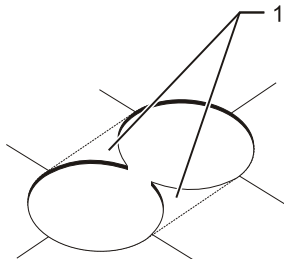

FIGURE 8
25. Use a suitable tool to remove the material (1) between the two holes to make one elongated hole 13x6.5 mm.
26. De-burr all holes and use an anti-corrosion stand-alone primer (no topcoat required) suitable for Aluminium substrates, for e.g. primer Galmet Keytite Alum Primer or equivalent. Refer to figure 8.